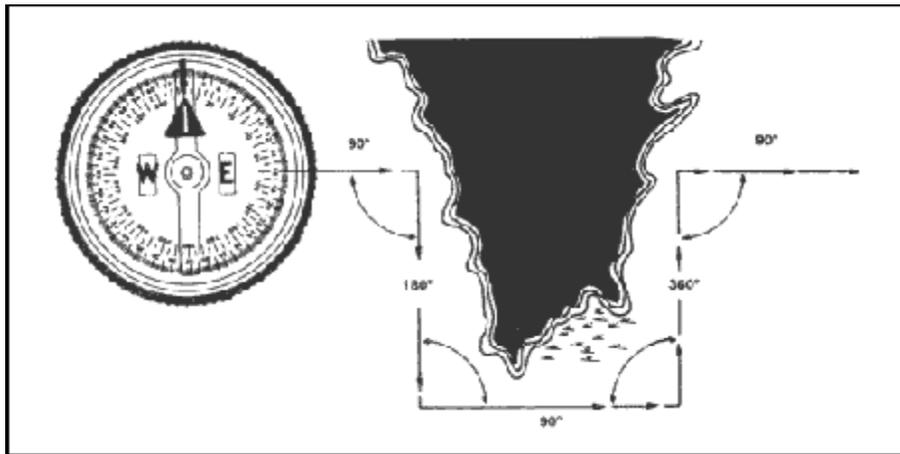

Figure 5. Bypassing an obstacle.
(1) For example, while moving on an azimuth of 90° change your azimuth to 180° and travel for 100 meters. Change your azimuth to 90° and travel for 150 meters. Change your azimuth to 360° and travel for 100 meters. Then, change your azimuth to 90° and you are back on your original azimuth line (Figure 5).